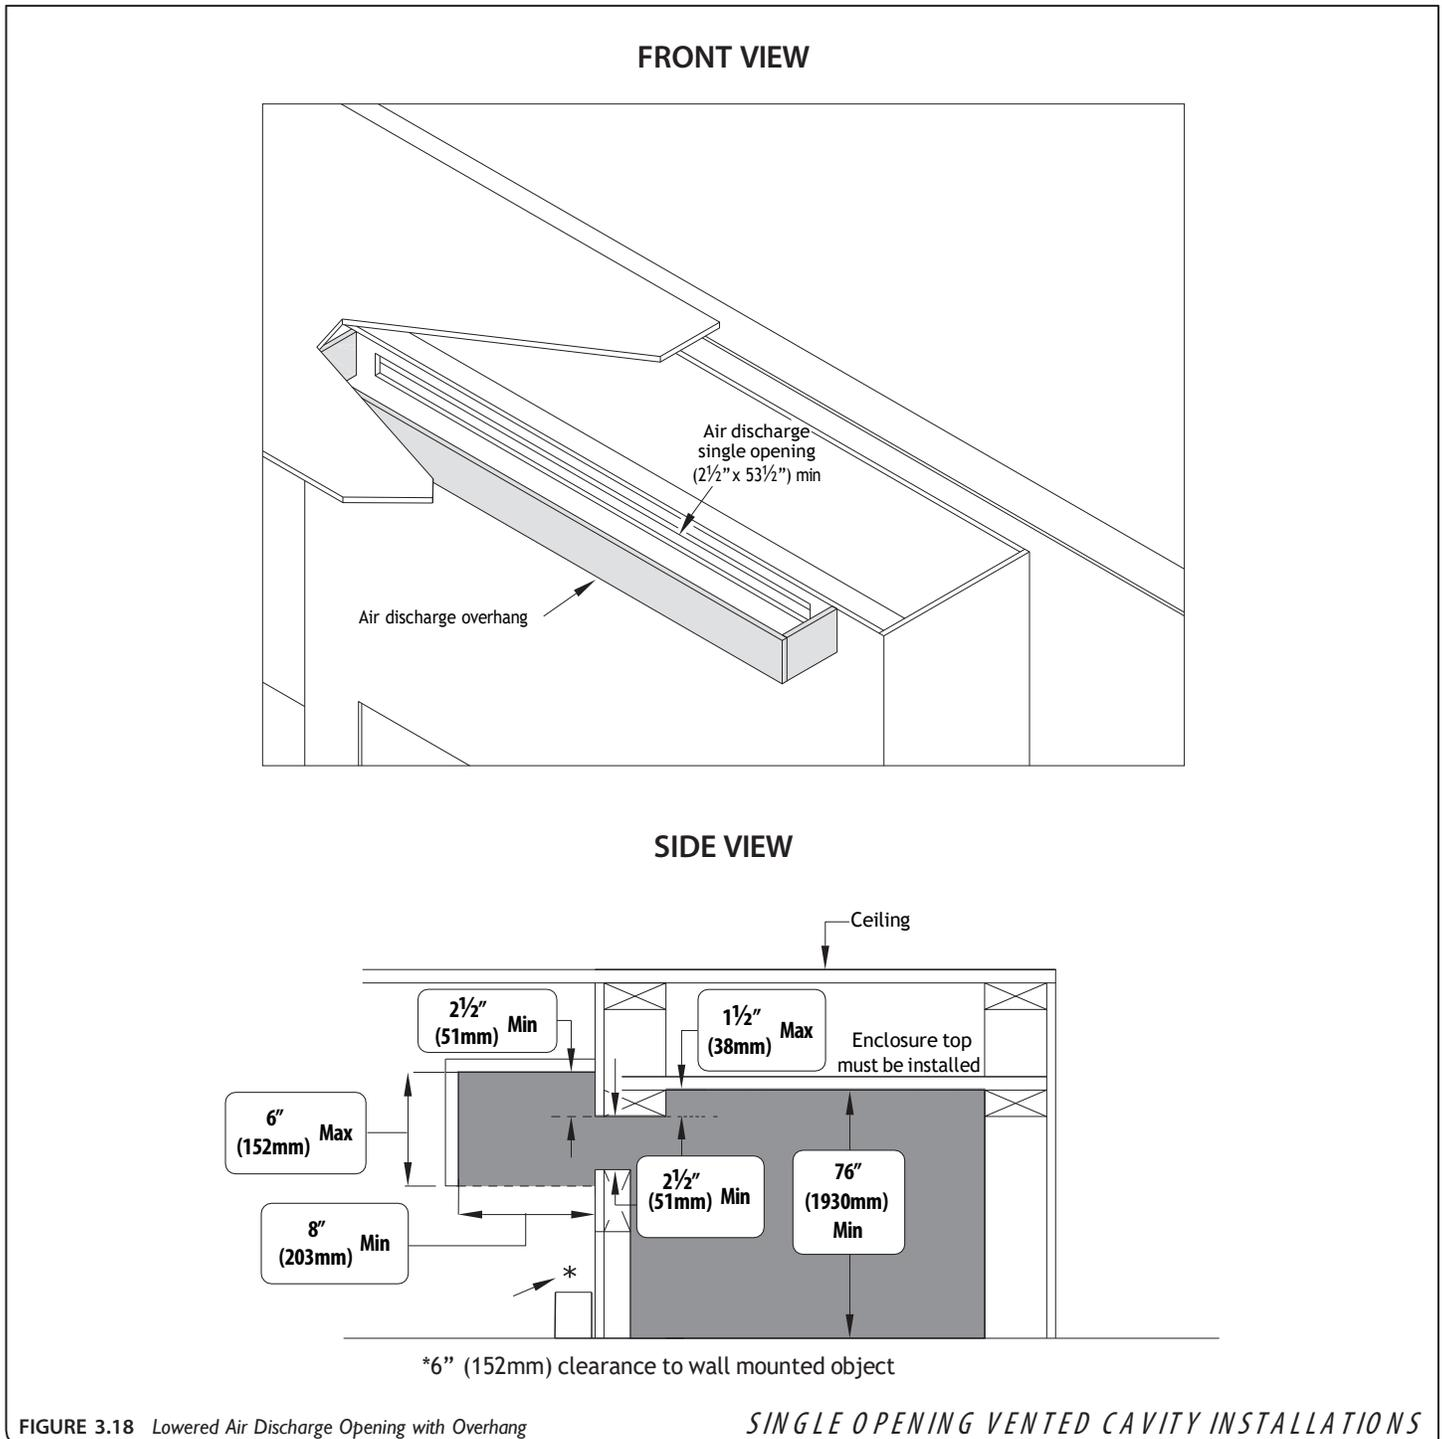

FIGURE 3.18 Lowered Air Discharge Opening with Overhang
- FIGURE 3.18** shows an alternative installation method where you cap off the fireplace cavity so the air discharge opening can be located further down the fireplace chamber. 1-1/2" (38mm) is the maximum drop for framing the air discharge opening to the fireplace enclosure top. This avoids trapping heat in the upper areas of the vented cavity enclosure. Framing the outlet any lower than 1-1/2" (38mm) will cause overheating and create a fire hazard.
- FIGURE 3.18** is shown with an air discharge overhang in front of the air discharge opening. This optional installation method can provide a means to visually hide the air discharge opening.